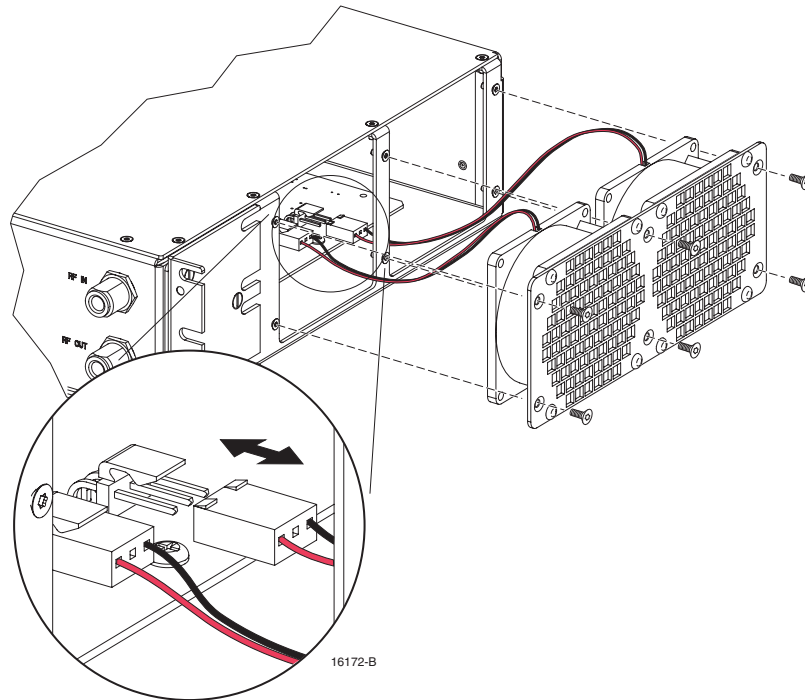

Figure 31. Fan/Grill Assembly Removal
5. Remove the six flat-head screws (requires TORX screwdriver with T15 bit) that secure the fan/grill assembly to the side of the enclosure as shown in Figure 31 and save for reuse.
7. Lift the small latch on each wiring harness connector (see Figure 31) and carefully unplug each connector from the circuit board connector.
12. Secure the fan/grill assembly to the side of the enclosure (see Figure 31) using the six flat-head screws removed in step 5.